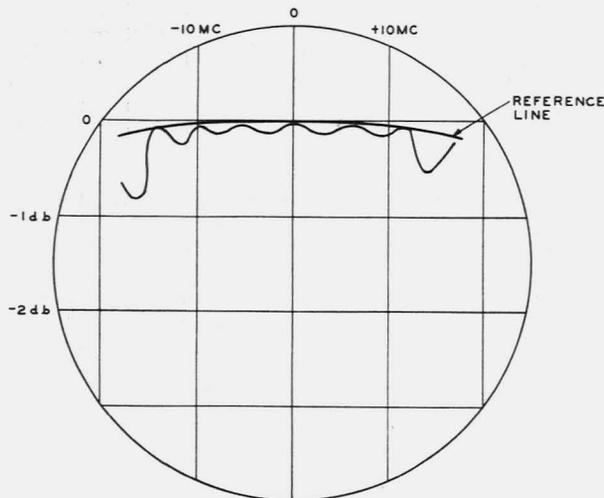

Fig. 22 - Typical Output Impedance Characteristic of Transmitter Amplifier
- (10) Reduce AT5 to such a setting that the loss of AT5 plus the loss of the 50 feet of line is equal to 4.5 db.
- (11) Note the ripples which appear on the transmission characteristic. The loss in the circuit is now such that a ripple amplitude (peak-to-peak) of 0.1 db represents a return loss of 30 db or a standing wave of approximately 0.5 db. A typical scope picture is shown in Fig. 22.
- (7) Adjust the output filter tuning and the plate tuning for a flat-topped characteristic approximately symmetrical about the center frequency.
- (8) Adjust the input impedance as described in (H).
- (9) Repeat (1) through (7).
- (10) Set AT5 to 3.5 db.
- (11) Adjust the coupling screw, the plate tuning and the output filter tuning for minimum ripples over the band.
- (12) Set AT5 to 20 db and repeat (8).
- (13) Set AT4 to 20 db and observe the output characteristic, as in (10) and (11). A typical scope picture is shown on Fig. 22.